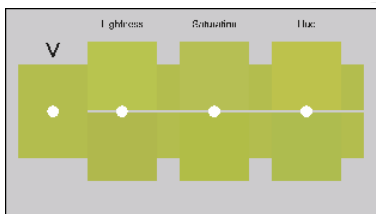
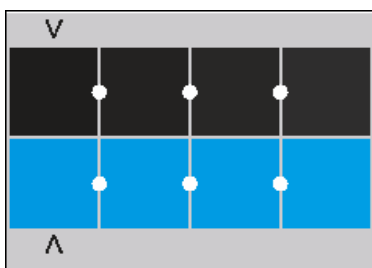

Figure 11—Strip One
Figure 12—Strip Three
1. Using strip one of the Visual Tolerance Chart, place the hole of the patch marked with a V over the first patch of the Verification Strip. Make sure that the colors are identical (see Figure 11). Repeat this step, comparing each set of patches in strips one and two of the Visual Tolerance Chart with the corresponding patch in the Verification strip.
2. If your verification strip does not match the patch with a marker (V), use the other patches in the set to determine whether your proof is within the visual tolerance range—lighter/darker, under saturated/over saturated, or a different hue.
3. Using the set of patches on strip three of the Visual Tolerance Chart, place the hole nearest the patch marked with a V over the corresponding patch on the Verification Strip. Make sure that the colors are identical (see Figure 12). The verification patches should match the densest corresponding patch on the Visual Tolerance Chart.